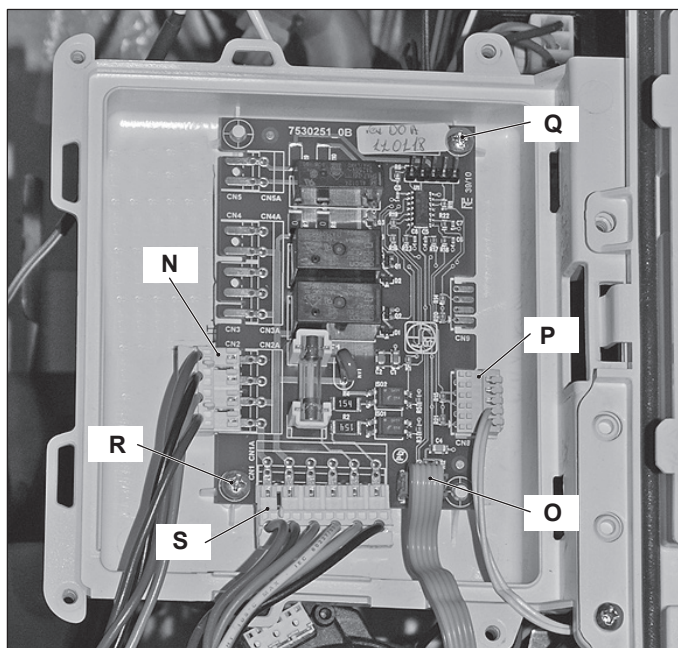

Figure 10.4
- 3 Remove all the wiring "N", "S", "O" and "P" connected to the *Interface electronic p.c.b.* (Figure 10.4).